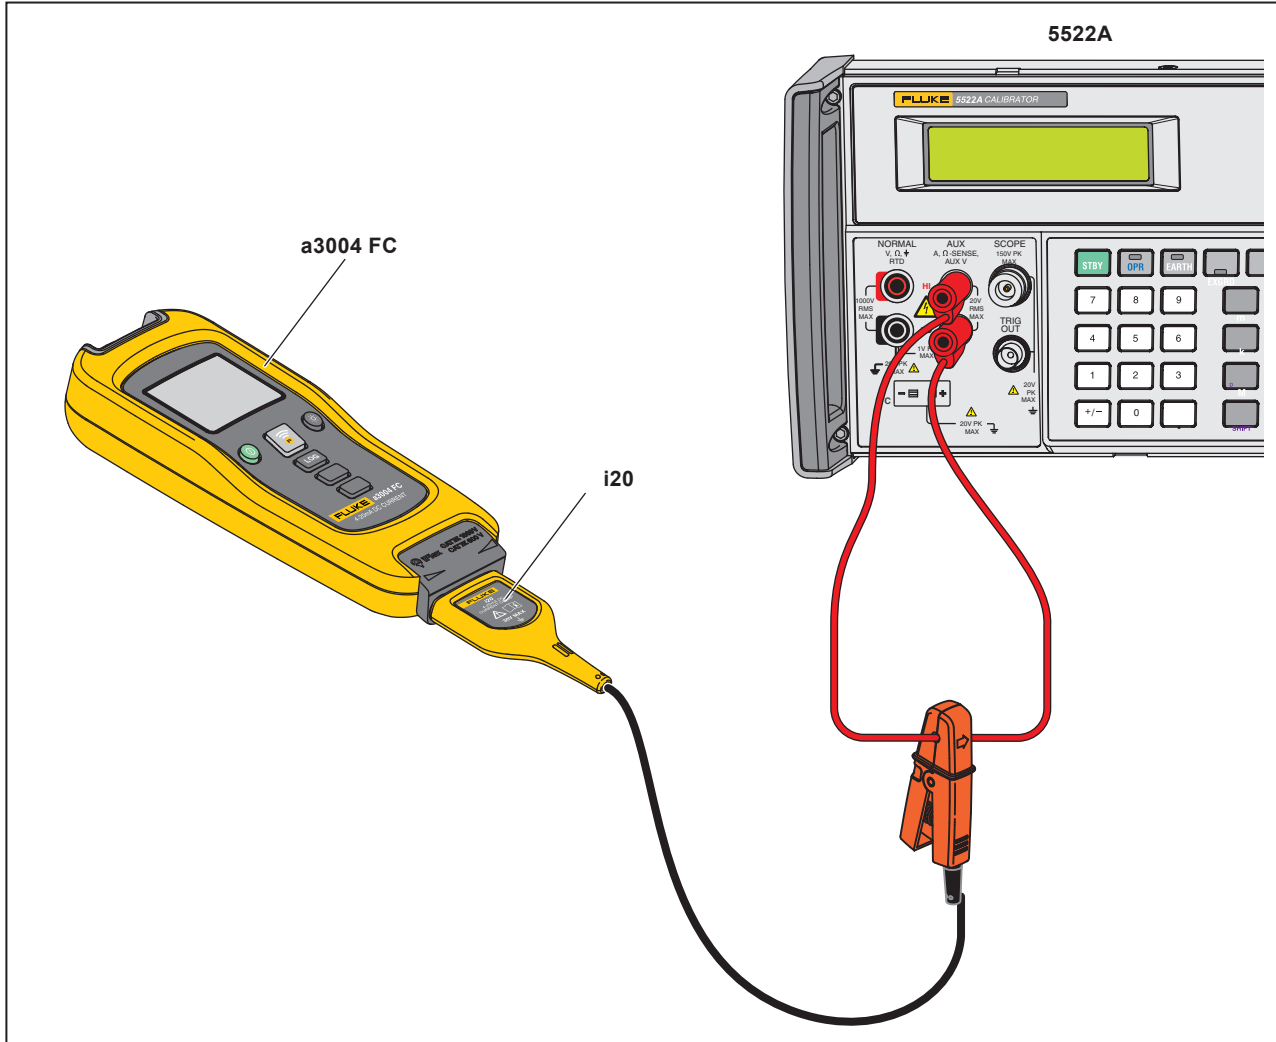

Figure 8. Calibration Connections for the 4-20 mA Clamp
*While the calibration adjustment points are shown in Table 6, the Meter shows the necessary inputs. For each step, push **LOG** to see the necessary dc reference signal amplitude. Use the connections shown in Figure 8.*
3. Use 1 loop insulated copper wire to short circuit the calibrator current output AUX and LO terminals, see Figure 8.